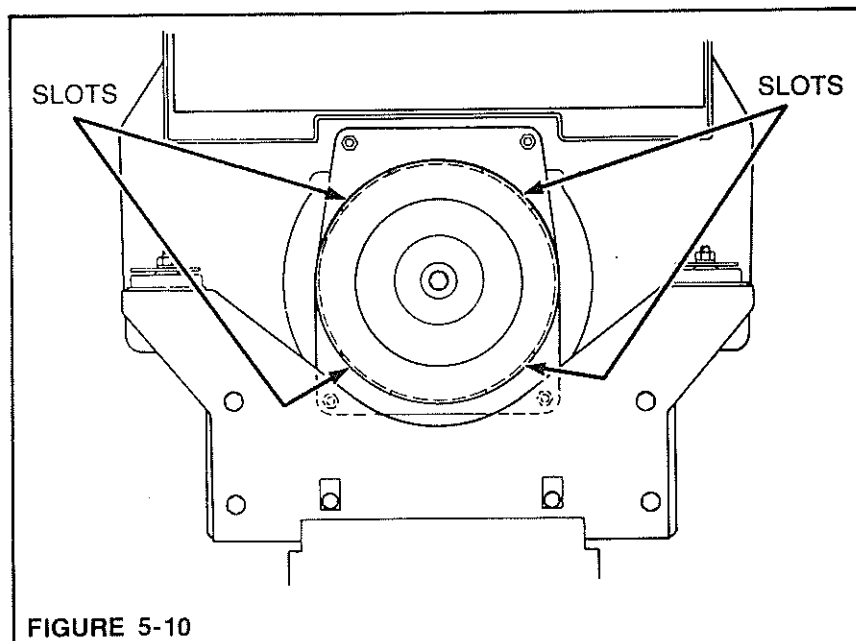

FIGURE 5-10
Position a .015" (0.38 mm) thick shim in each slot Figure 5-10 (4) in brake flange and turn on clutch/brake. Tighten the (4) locknuts until they just contact brake flange. (**CAUTION:** Do not over torque locknuts as damage to brake flange may result.)